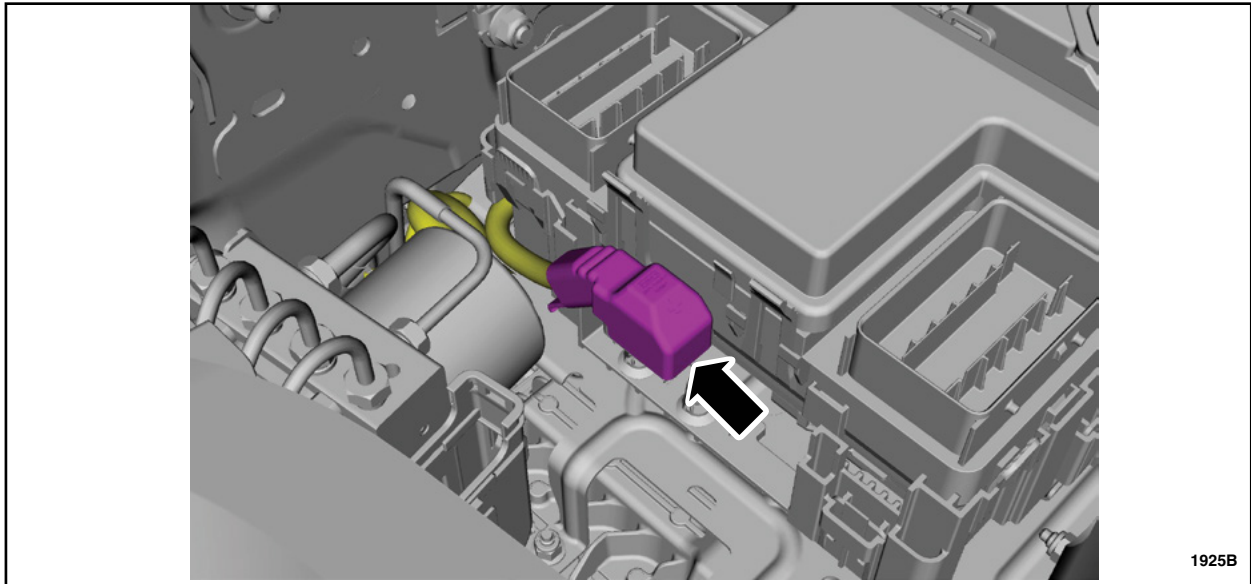

FIGURE 21
22. Install the battery cable cover. See Figure 21.